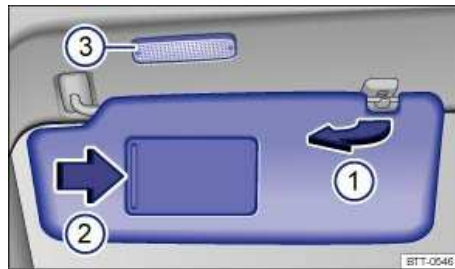

Fig. 88 In the headliner: Sun visor.
- ☐ Lift it out of the retaining clip ⇒ fig. 88 \(1\) and swivel it over toward the door.